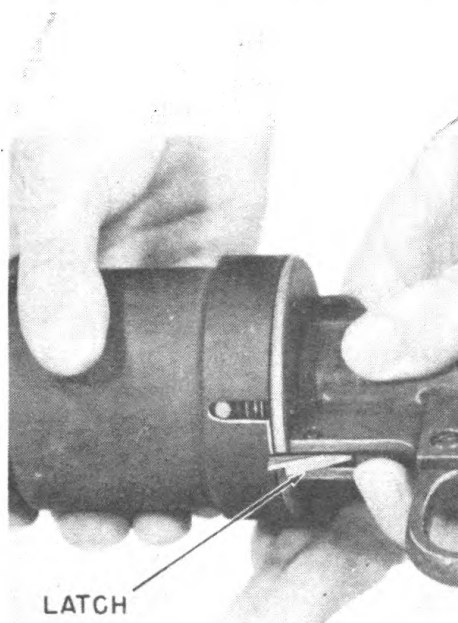

Fig 14. Unscrewing ignition shield, with pressure on latch.
- (1) Unscrew and remove ignition shield. (Fig 14)
- (1) Point gun at the ground.
- (2) Press latch. (Fig 14)
- (3) Unscrew the ignition shield and allow ignition cylinder to fall out. (Be careful to keep the hands away from the front of the cylinder.)
- (4) Save the partly used cylinder for training use or destroy it by firing from gun after fuel tanks have been emptied. For information on care, handling, and storage of cylinders, see Paragraph 31.